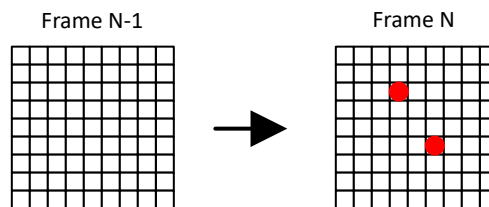

图 8-7. On Demand Data Refresh - Mode 1
**Mode 1:** 8-bit PWM data without VSYNC command. Data is sent out for display instantly after received. With Mode 1, users can refresh the corresponding dots' data only instead of updating the whole SRAM. It is called 'on demand data refresh', which can save the total data volume effectively. As shown in 图 8-7, the red LED dots can be refreshed after sending the corresponding data while the others kept the same with last frame.